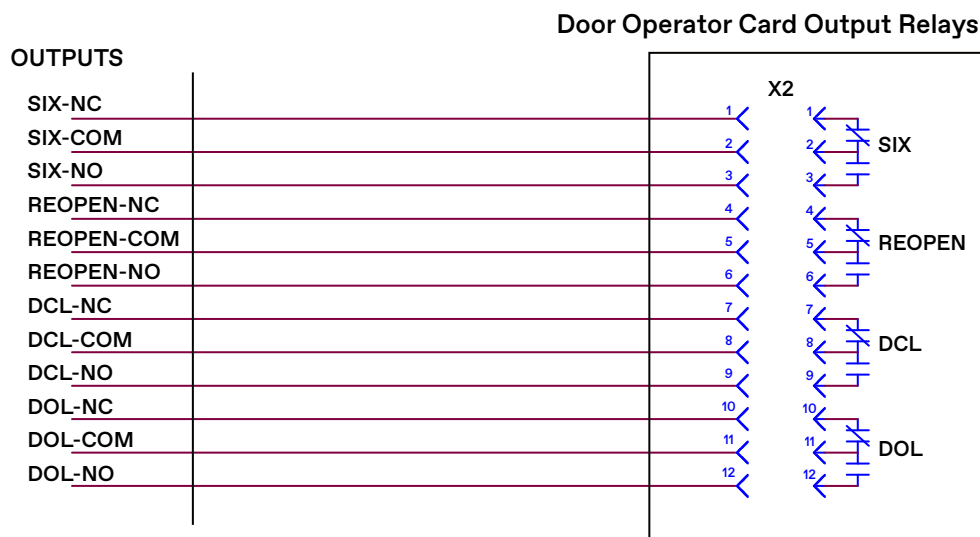

Figure 32 - Door Operator Control Board Output LEDs and Output Relays
- The outputs exit the Door Operator Control Board at plug X2 and are dry contacts of the four relays on the board. See Figure 32.